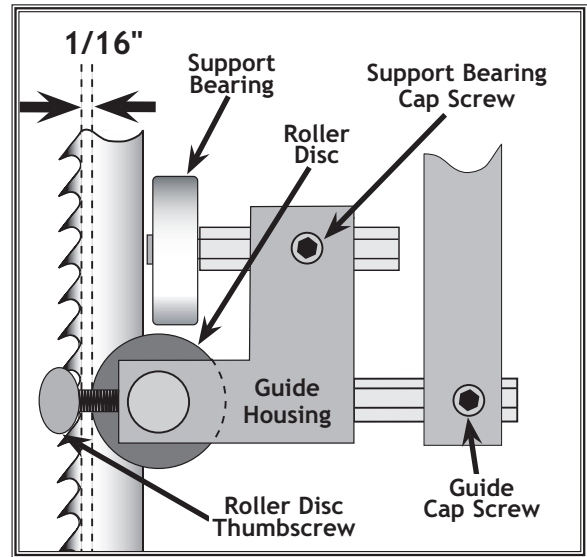

Figure 23. Blade guide assembly.
The roller discs keep the blade from wandering from side-to-side. These discs support the blade just behind the blade gullet to prevent the blade from tracking off center when hard and soft areas are cut in the wood (see **Figure 23**).
2. Loosen the guide cap screw (see **Figure 23**).
3. Slide the guide housing so the edge of the roller disc is $\frac{1}{16}$ " behind the blade gullet (see **Figure 23**) and retighten the cap screw.
4. Loosen the roller disk thumbscrew (see **Figure 23**).
6. Loosen the support bearing cap screw (see **Figure 23**).